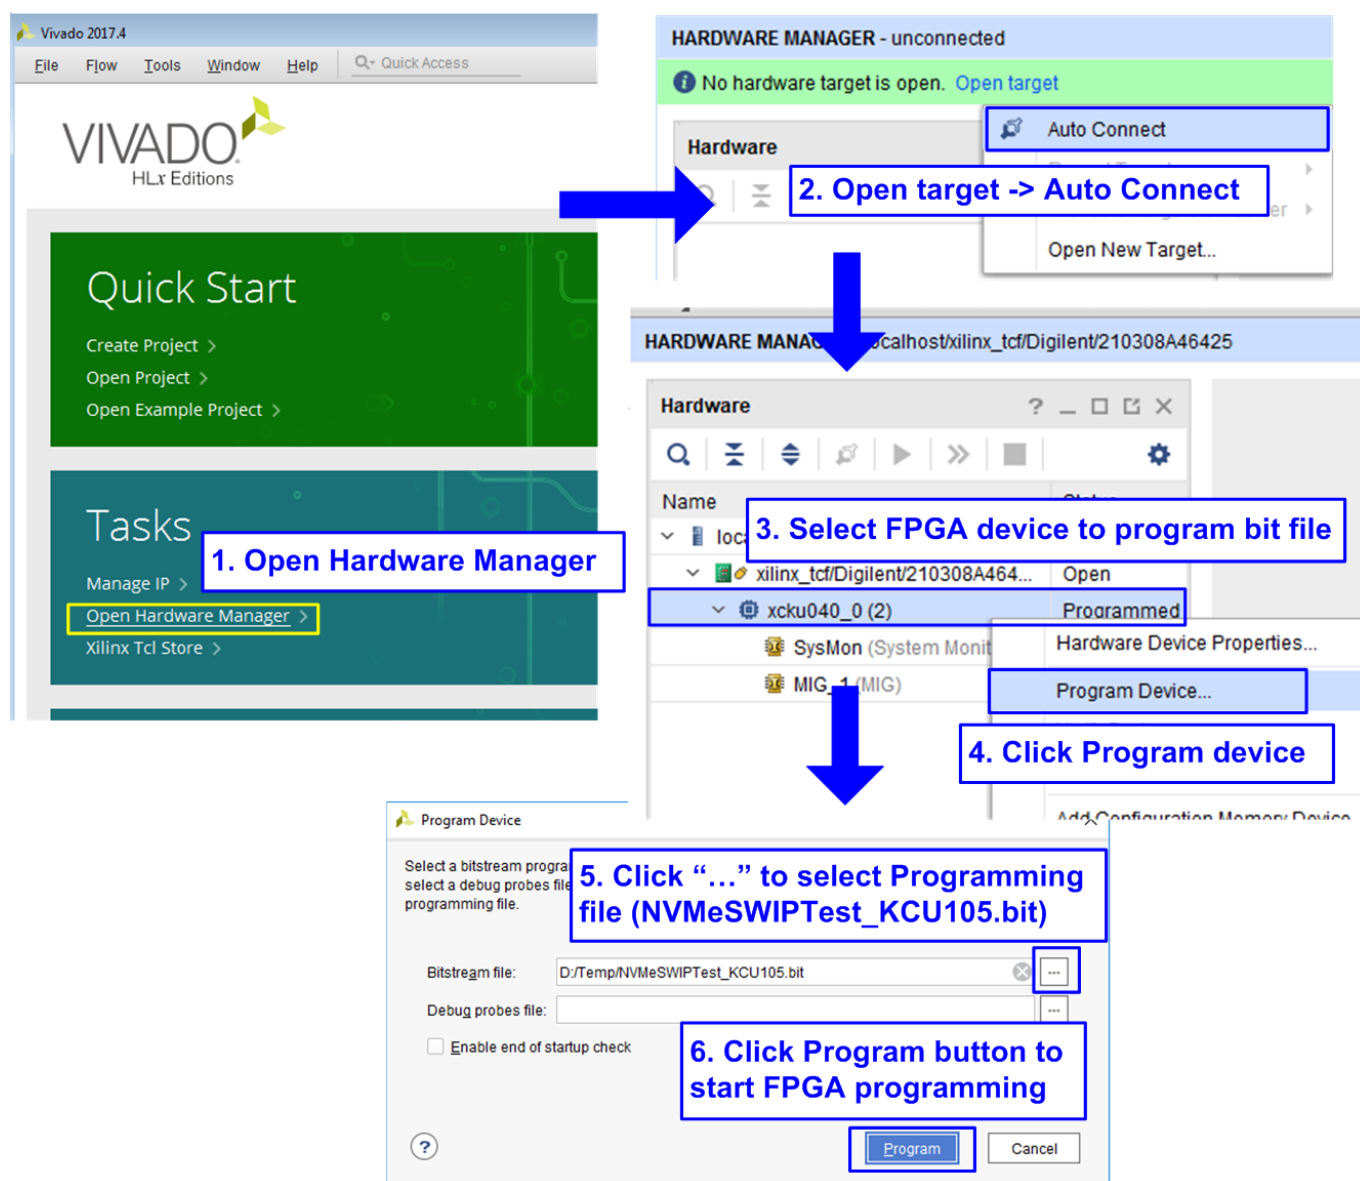

Figure 2-9 Program FPGA by Vivado
- a) For KCU105/VCU118, configure FPGA by using Vivado as shown in Figure 2-9.